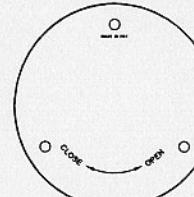
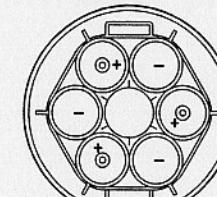

FIG. 1
FIG. 2
- When the power of batteries lower than 4V, replace new batteries is must. Otherwise, the Remote Control may not function. (Fig. 1 and Fig. 2)
- Turn lantern upside down and turn base cover counter clockwise and lift off. (Fig. 1)
- Insert with new 6 pcs. "D" size batteries (not included). (Fig. 2) Close battery cover and snap shut.